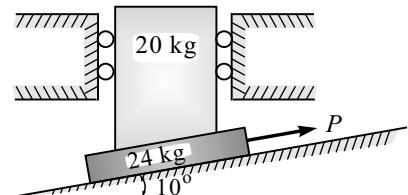

Fig. 8.E36
37. What horizontal force P on the wedge B and C is necessary to raise 200 kN resting on A , as shown in Fig. 8.E37? Assume that coefficient of friction μ between the wedges and the ground is 0.25 and between wedges and A is 0.2. Also assume symmetry.